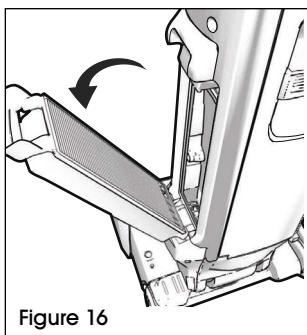

Figure 16
- Pivot the filter away from the machine and remove. Install new filter by aligning the tabs at the bottom of the filter with the slots with the exhaust area of the cleaner and snap into place. (See Figure 16)